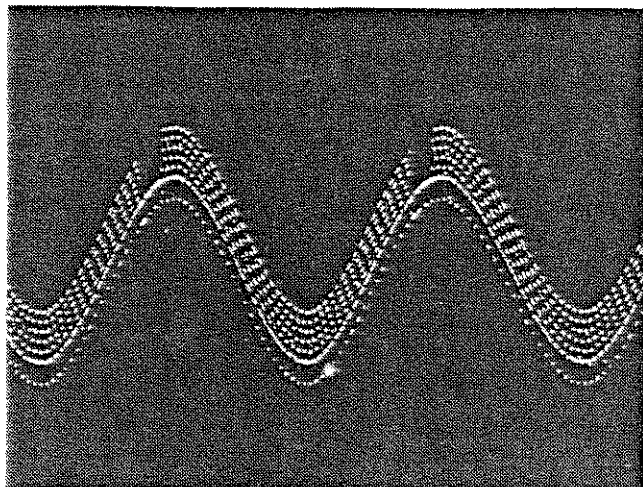

Fig. 4-33 50 Hz signal for TV Clamp check
- e. Connect the Function Generator through a 50 ohm cable and 50-to-75 ohm Minimum Loss Attenuator to the T-Connector. Set the generator for a 60 Hz, 1 VP-p, sine wave output. Note the amplitude of the 60 Hz signal on the Monitor display (Figure 4-33).